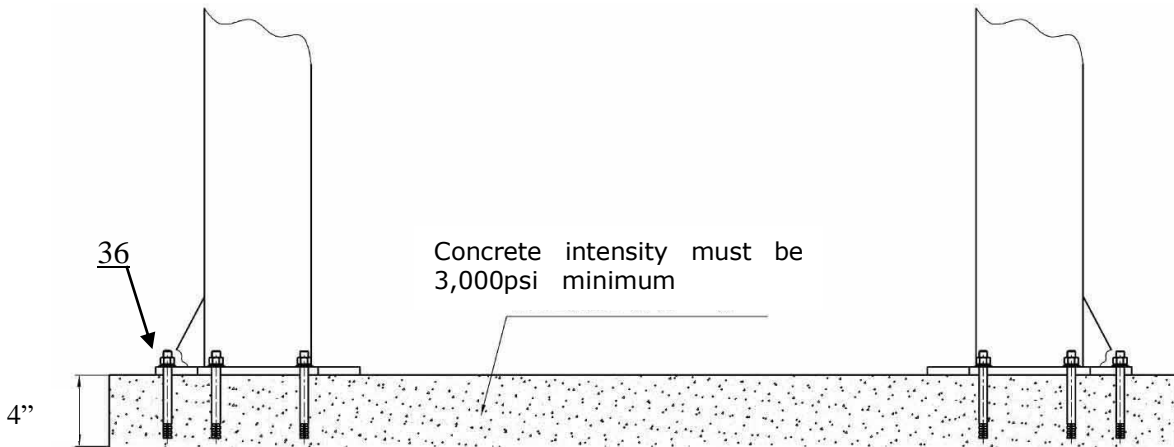

Fig. 4
B. SPECIFICATIONS OF CONCRETE (See Fig. 4)